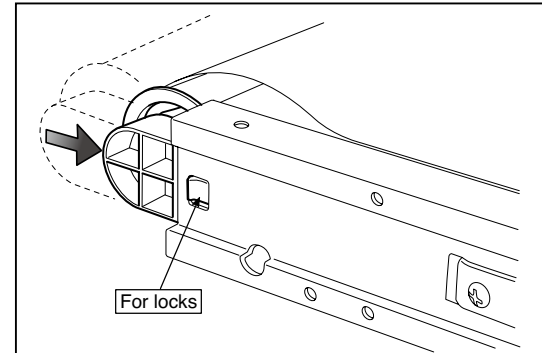

Fig.28
- 4.Push the Tension Roller Base block shown in the figure 28 into the inside and fix the Tension Roller Bases.